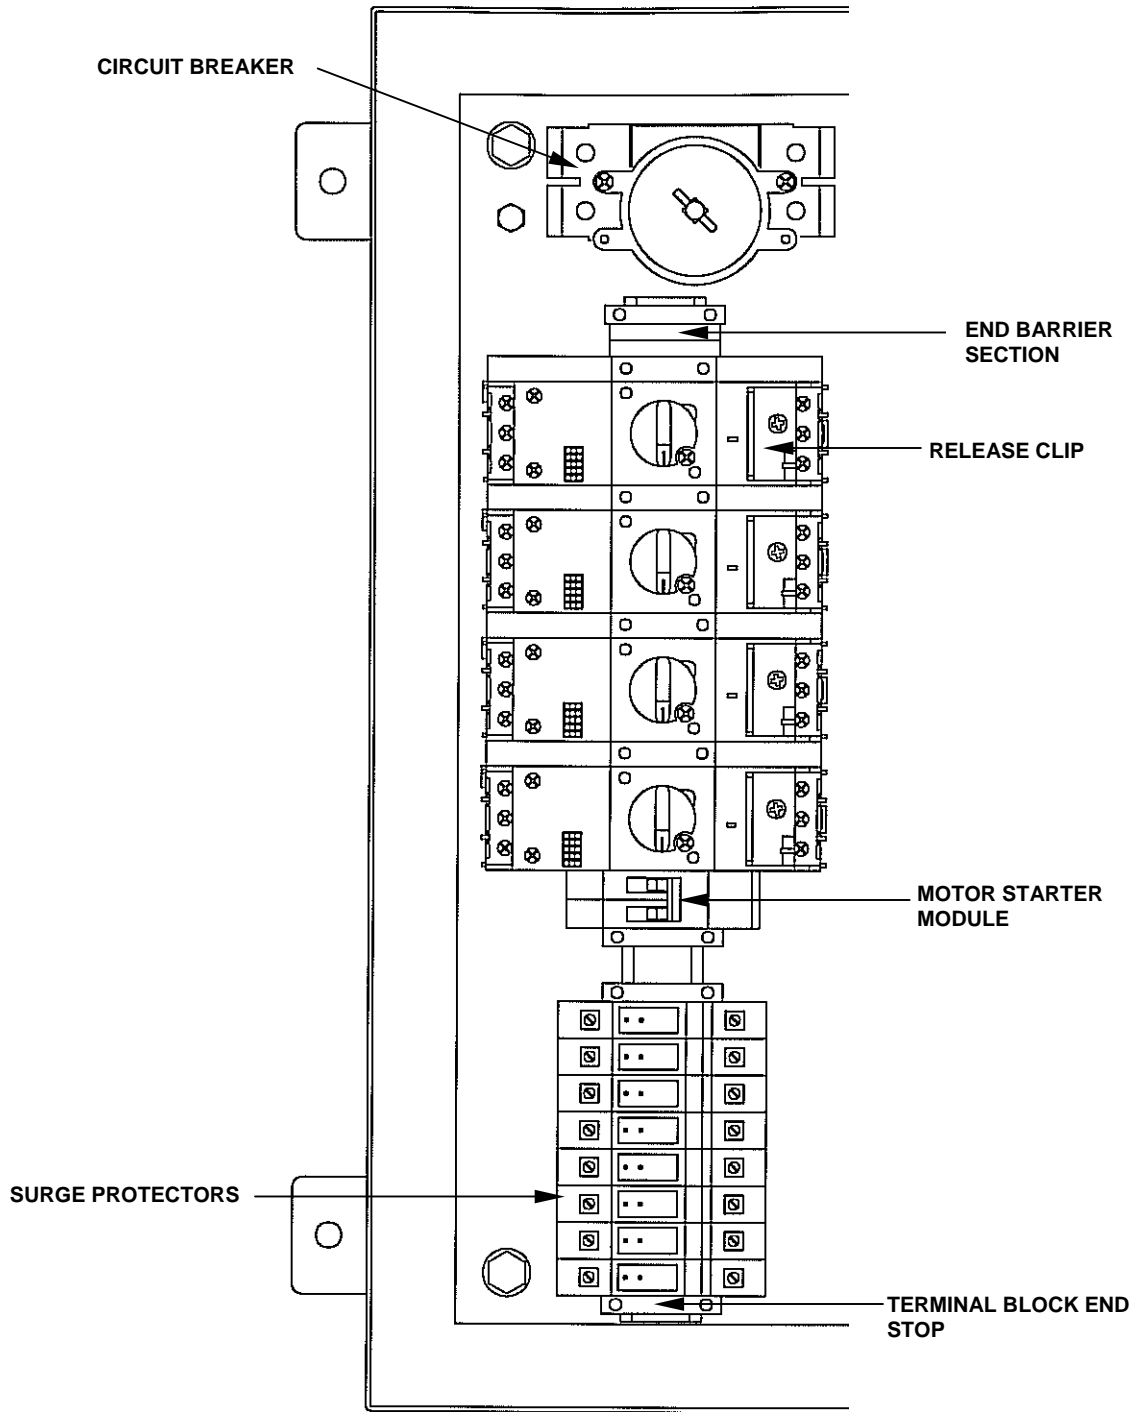
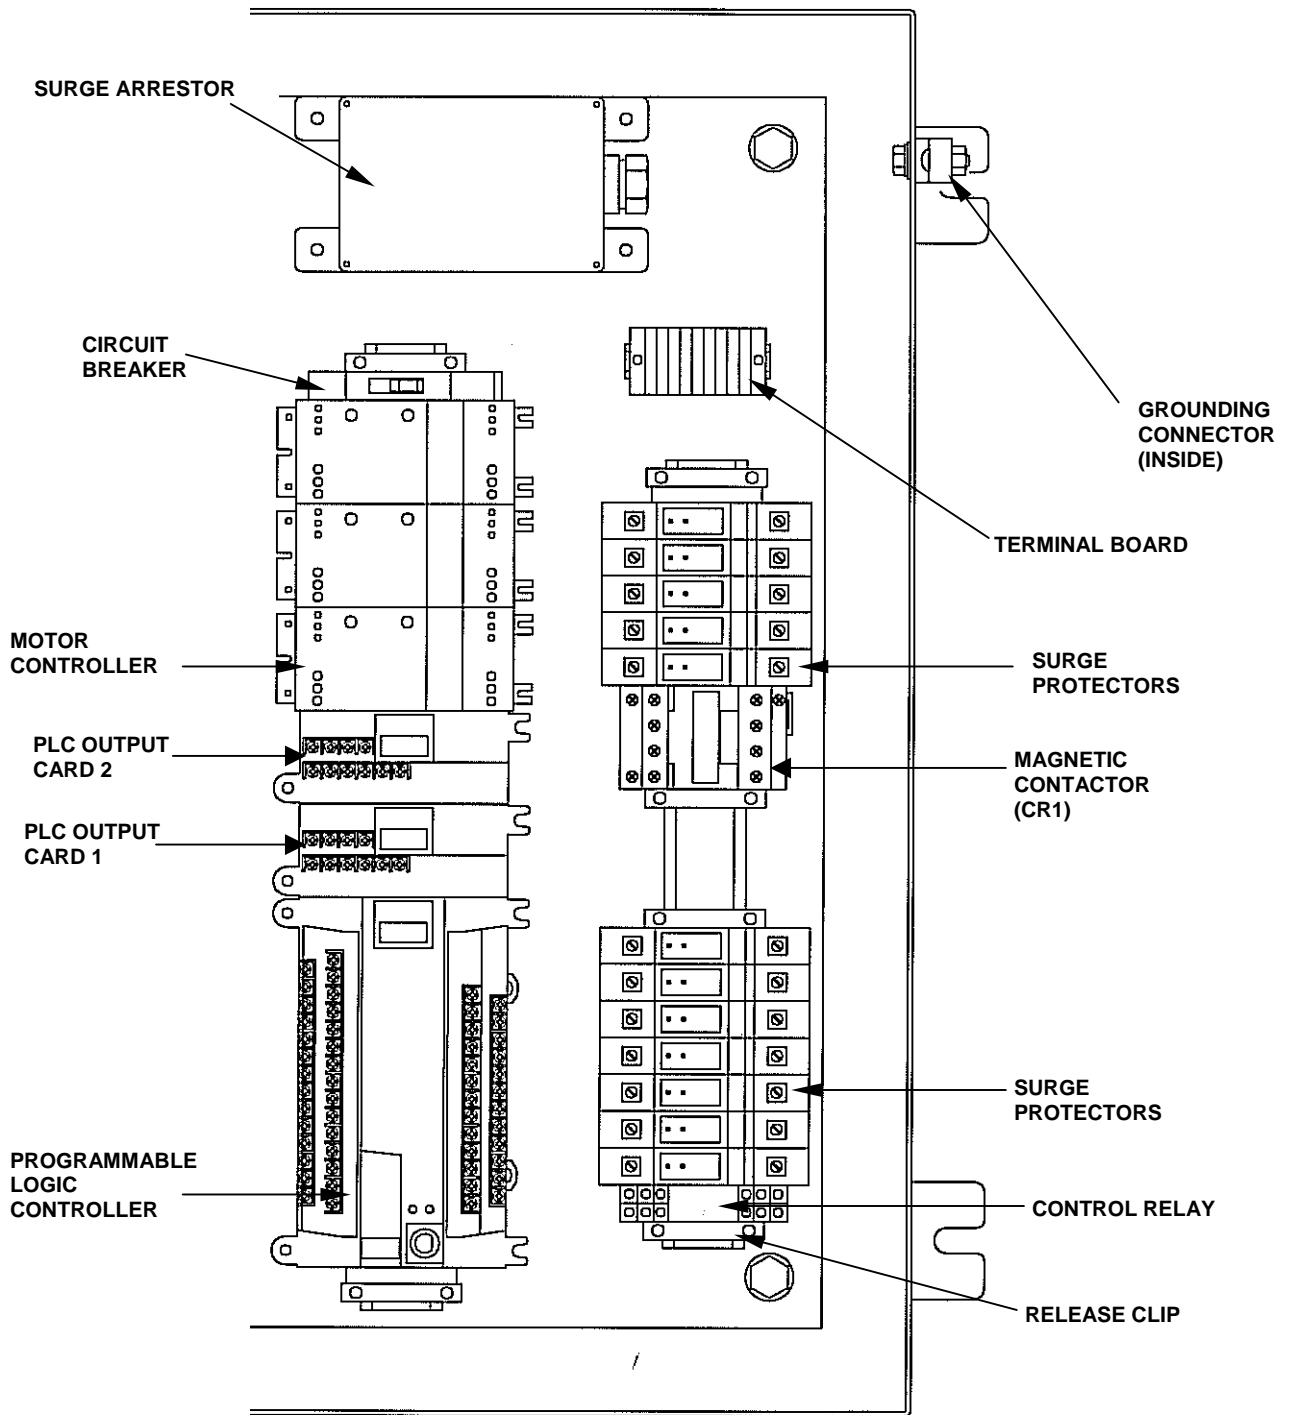

Figure 3. Control Module Internal Components (Top).
Figure 4. Control Module Internal Components (Bottom).
See Figure 3 and Figure 4 for internal components in the control module.
1. Make note of wire numbers on circuit breaker for ease of reinstallation. See Figure 3.
1. Place circuit breaker on mounting plate. See Figure 3.
1. Make note of number and location of all wires on motor starter module. See Figure 3.
1. Grasp surge suppressor. See Figure 3 and Figure 4.
1. Make note of number and location of four wires on motor controller. See Figure 4.
1. Make note of the number and location of wires on circuit breaker. See Figure 4.
1. Make note of number and location of four wires on circuit breaker mounting bracket. See Figure 3.
The PLC has 14 input and 12 output. Inputs 15 through 23 are spares, outputs 13 through 16 are spares. See Figure 4.